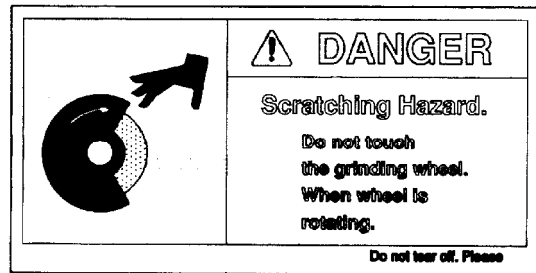

Fig 3.7.1
1. Do not touch the grinding wheel when the wheel is rotating (Fig 3.7.1) . Located in position “A”.